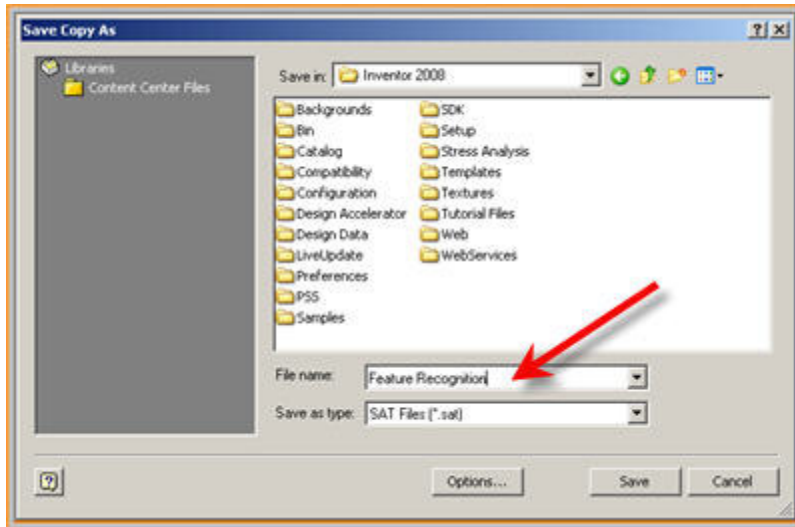

Figure 5: Save Copy As dialog box
Step 7: Now save this part file as *.SAT (Save Copy As...) as shown in Figure 5.